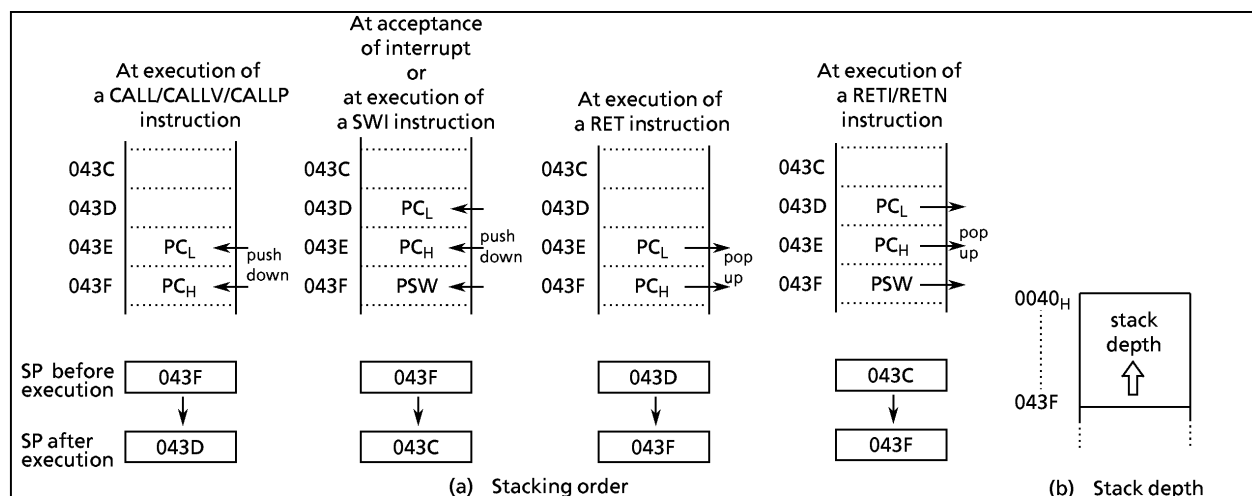

Figure 1-9. Stack
1.7.2 Stack pointer (SP)
The stack pointer (SP) is a 16-bit register containing the address of the next free locations on the stack. The SP is post-decremented when a subroutine call or a push instruction is executed, or when an interrupt is accepted; and the SP is pre-incremented when a return or a pop instruction is executed. Figure 1-9 shows the stacking order.